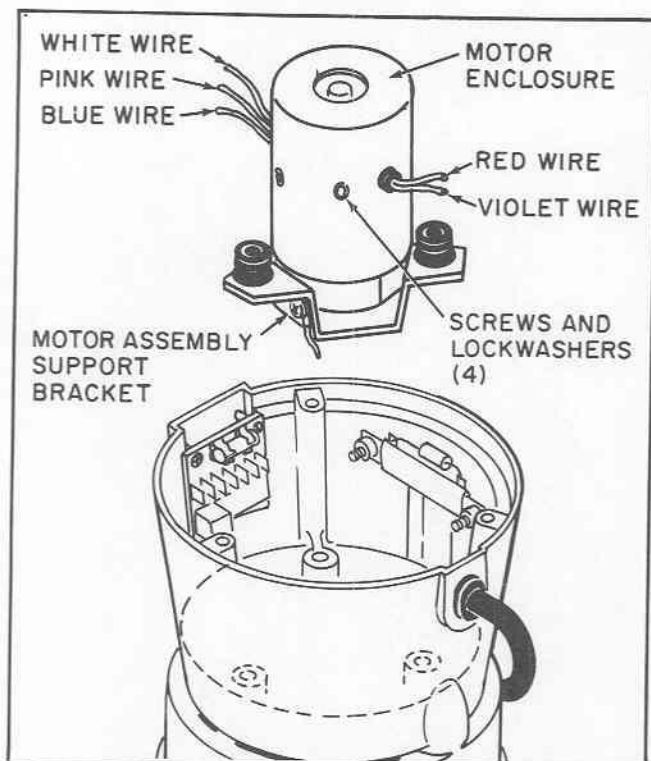

Figure 5-10. Removal of Motor Enclosure
- b. Remove two slotted screws and lockwashers from each side of motor (Figure 5-10).
- d. Loosen single set screw on hub of fan (Figure 5-10), using 5/64" Allen wrench, and remove fan from motor shaft.